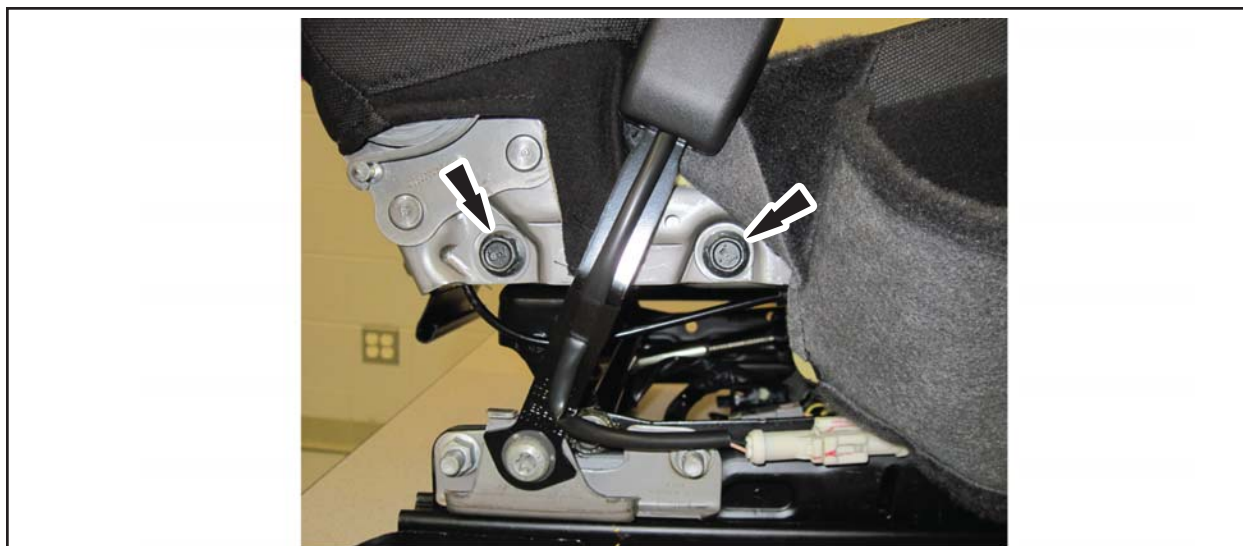

FIGURE 11
19. Remove and discard the four recliner-to-seat cushion frame bolts and separate the seat backrest from the seat cushion frame. See Figure 11.